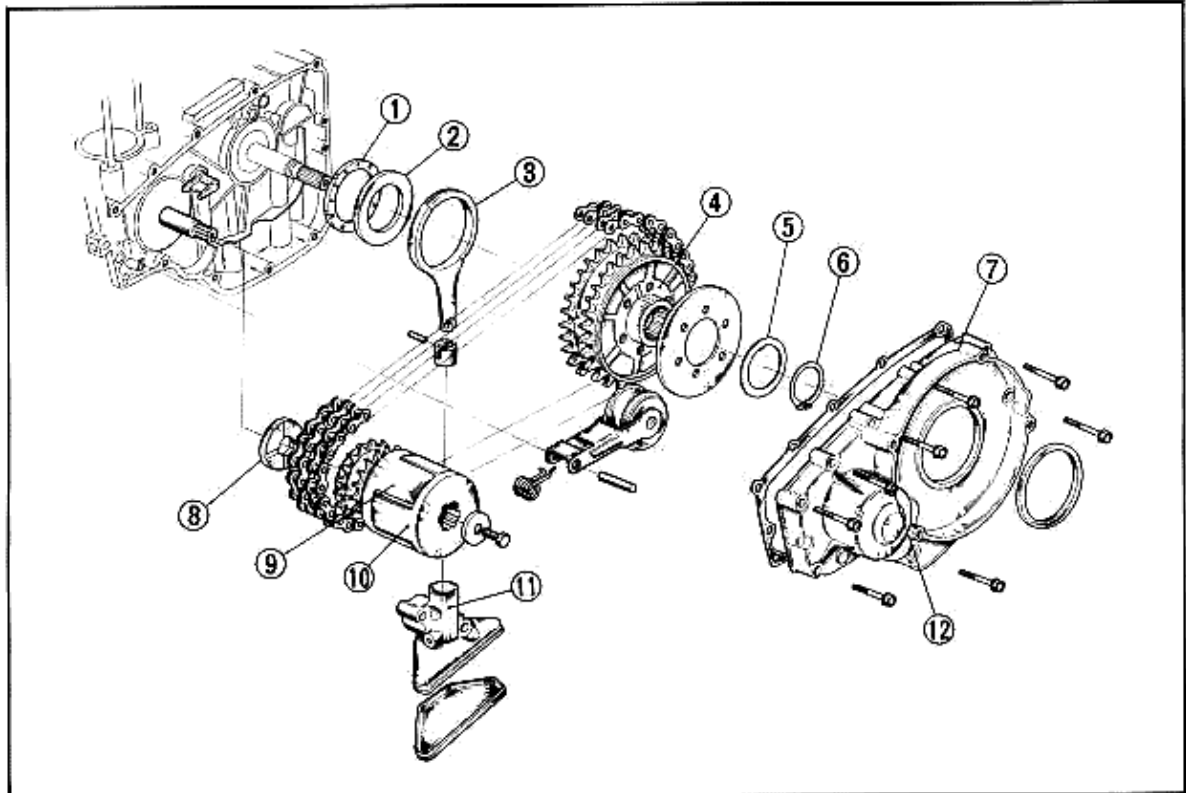

Fig. 4-18 ① Needle Thrust Bearing
- * A 25mm flat washer is fitted to the crankshaft (Fig. 4-18).
- * Apply thread lock cement, before tightening, on the bolt ② for the left crankcase side cover (Fig. 4-18).